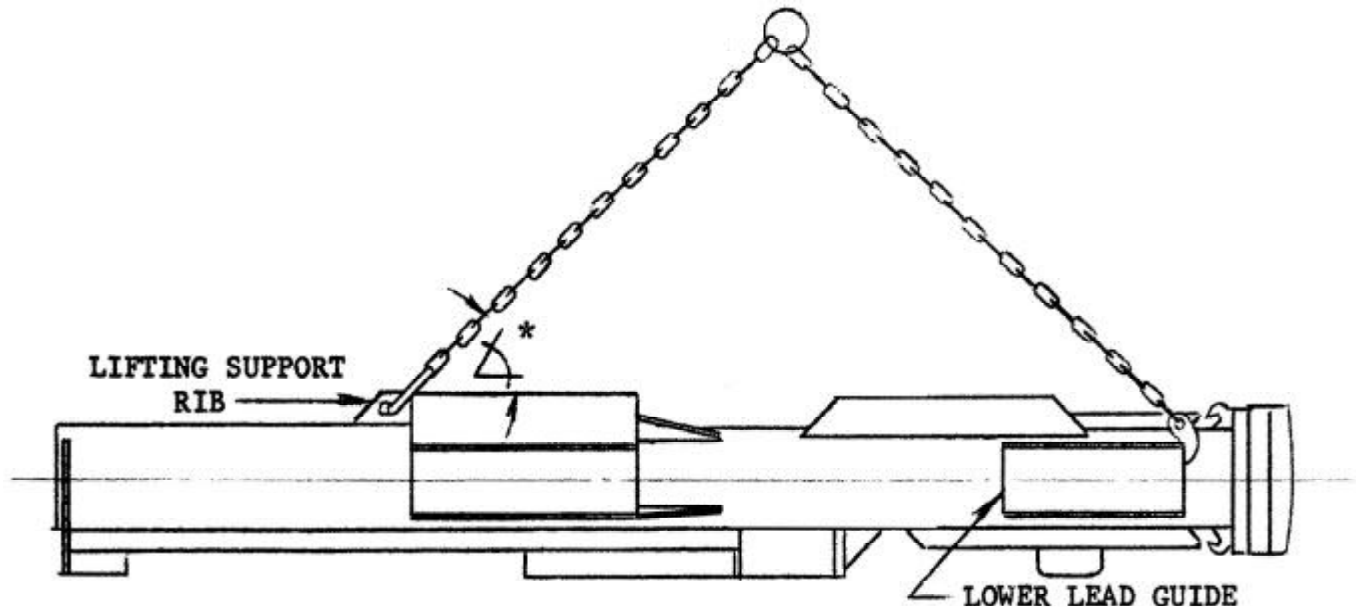

FIG. 13
1. To unload and move the hammer, see Fig. 13 below:
3. Attach the hose to the fuel pump and bleed the air from the receiver by opening the bleed valve Item 12, Fig. 13, Page 66 and moving the transmitter lever from the extreme back position slowly forward. At the end of the stroke lock the bleed valve, then move the transmitter lever back and repeat the procedure above until the fuel from the bleed valve is free of air. Lock the bleed valve on the receiver.